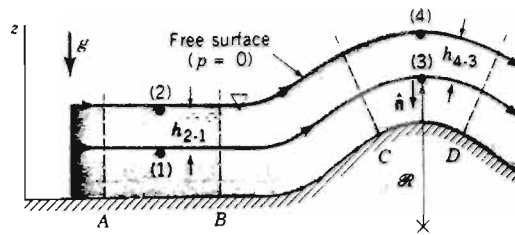

FIGURE E3.5
Consider the inviscid, incompressible, steady flow shown in Fig. E3.5. From section  $A$  to  $B$  the streamlines are straight, while from  $C$  to  $D$  they follow circular paths. Describe the pressure variation between points (1) and (2) and points (3) and (4).